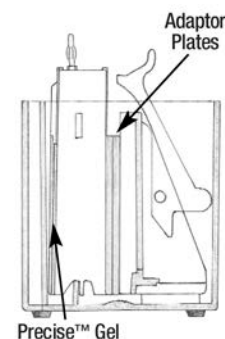

Figure 4. Adaptor plates placement when using one gel.
- Using the wedge device, clamp the running frame and the gels into place (Figure 4). The running frame should be fixed tightly and the gels should not be able to move.